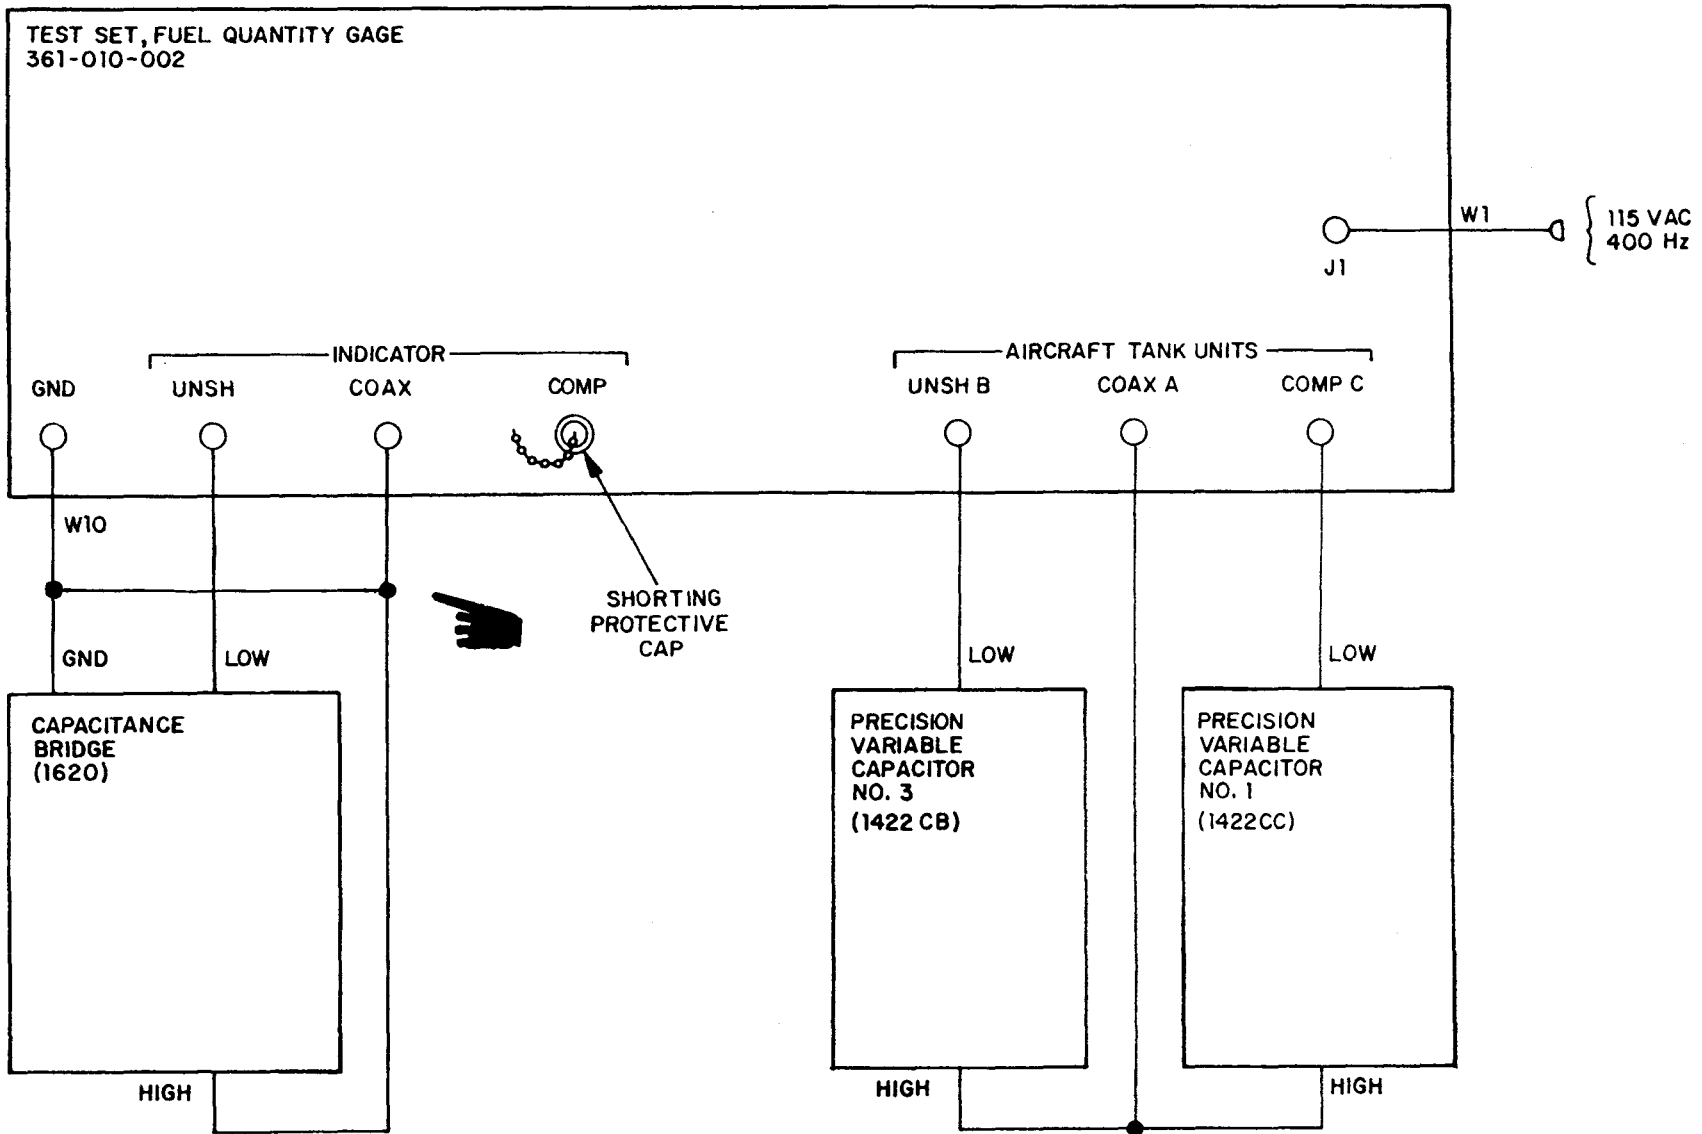

Figure 4-2. Capacitance simulation-indicator test, setup diagram
(1) Connect equipment as shown in figure 4-2. Set precision variable capacitor No. 1 to 15.00 pF and No. 2 to 70.00 pF.
(2) Set DISPLAY SELECT switch (S) to CAP (pF), CAPACITANCE RANGE switch (6) to 200, and CAPACITANCE FUNCTION switch (1) to SIM SET-COMP position.
(3) Adjust SIMULATORS-COMP control (13) to obtain digital display (7) readout of 50.00 pF.
(4) Set CAPACITANCE FUNCTION switch (1) to SIM SET-PROBE position. Adjust SIMULATORS-PROBE control (24) to obtain digital display (7) readout of 25.00 pF.
(5) Set CAPACITANCE FUNCTION switch (1) to IND TEST-SIM position.
(6) Adjust capacitance bridge for 1 KHz, 30 volts excitation. Null the capacitance bridge. Check that capacitance bridge reads between 24.50 and 25.50 pF.
(7) Set CAPACITANCE FUNCTION switch (1) to IND TEST-A/C position and null capacitance bridge. Check that capacitance bridge reads between 69.50 and 70.50 pF.
(8) Set CAPACITANCE FUNCTION switch (1) to IND TEST-A/C + PROBE SIM position and null capacitance bridge. Check that capacitance bridge reads between 94.50 and 95.50 pF.
(9) Set CAPACITANCE FUNCTION switch (1) to IND TEST-A/C + PROBE SIM + COMP SIM position and null capacitance bridge. Check that capacitance bridge reads between 94.50 and 95.50 pF.
(10) Set CAPACITANCE FUNCTION switch (1) to IND TEST-SIM position. Move capacitance bridge "low" lead to INDICATOR-COMP connector (21) and connect shorting cap to INDICATOR-UNSH connect or (21). Null the capacitance